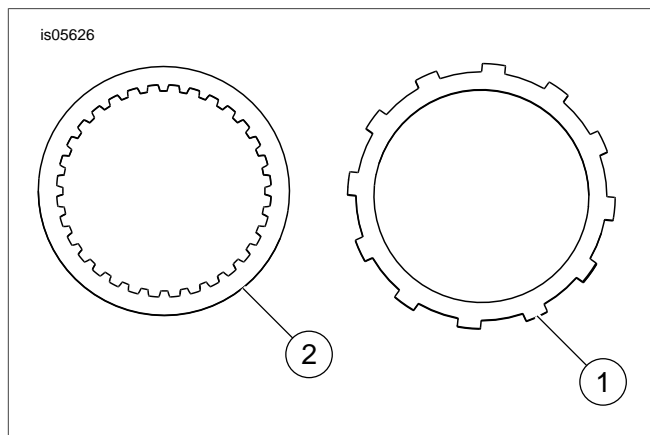

Figure 1. Components, Performance Clutch Kit
2. See Figure 1. Install a friction disc (1) into the clutch shell first, then alternate spacer discs (2) and friction discs.